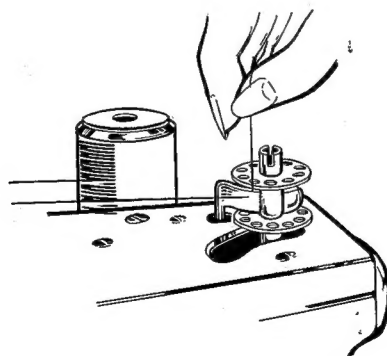

Fig. 2
- 5) Pass the end of the thread through one of the holes in the bobbin from inside to outside. (Fig. 2)